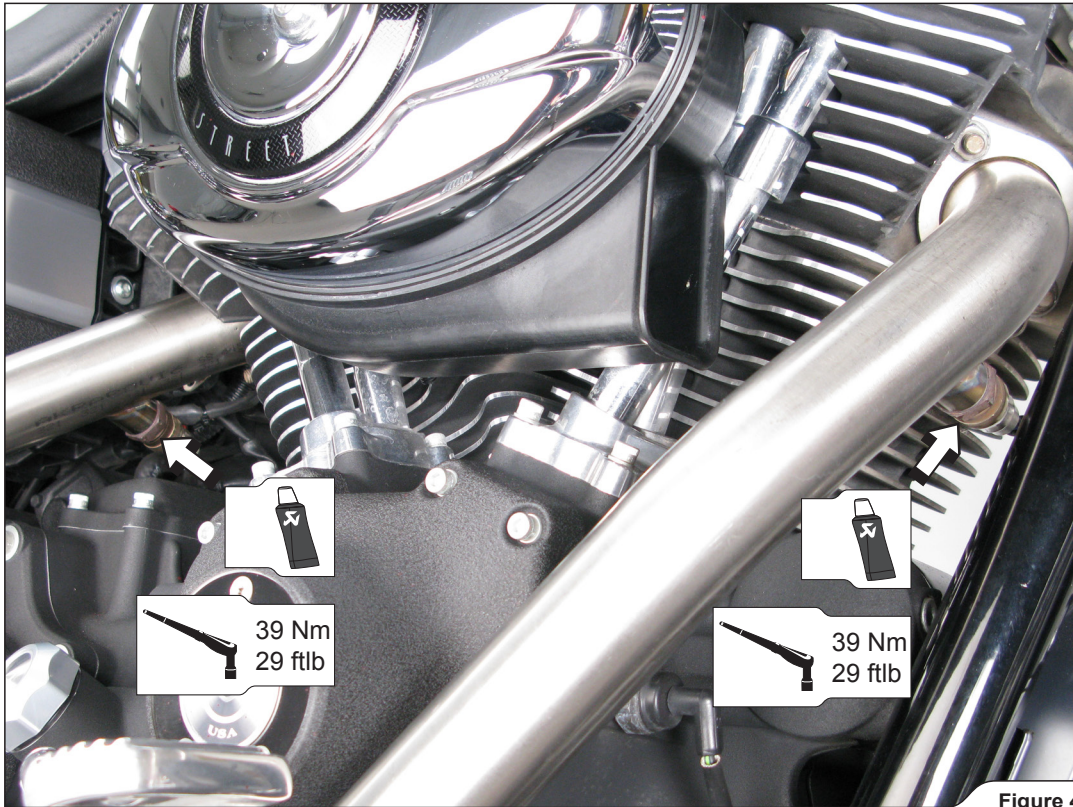

Figure 4
4. Tighten the lambda sensors into the front and rear headers (Figure 4).